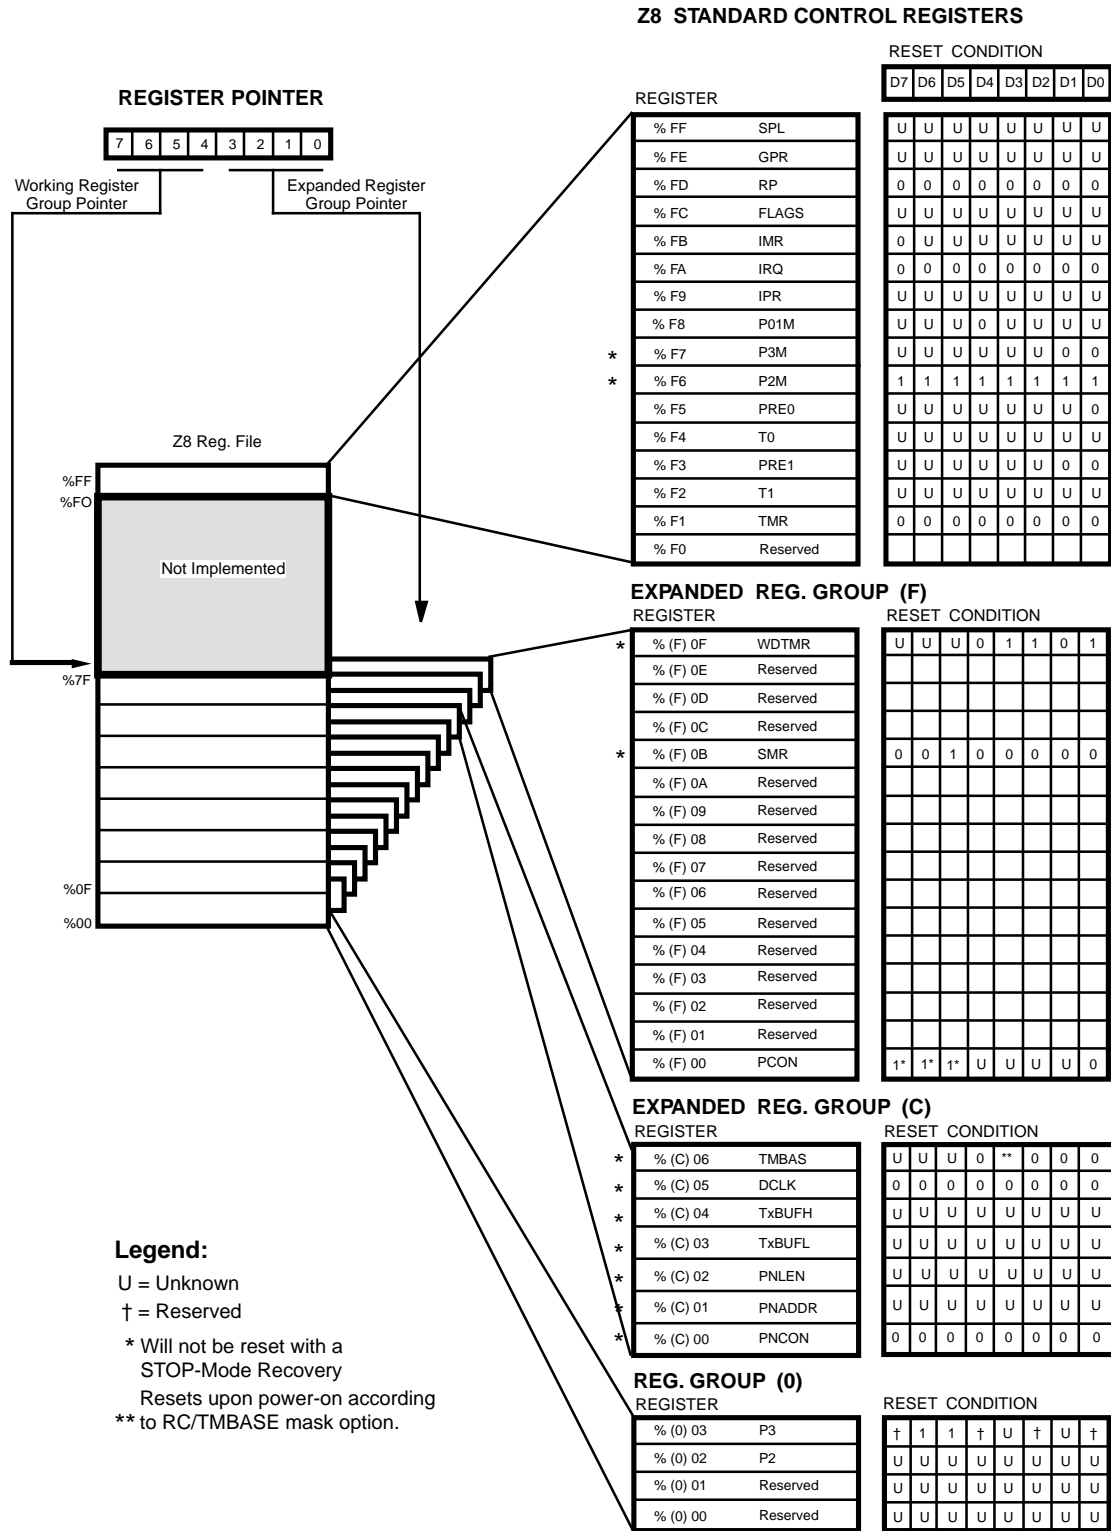

Figure 11. Expanded Register File Architecture
Expanded Register File. The register file has been expanded to allow for additional system control registers and for mapping of additional peripheral devices and input/output ports into the register address area. The Z8 register address space R0 through R15 is implemented as 16 groups of 16 registers per group. These register groups are known as the ERF (Expanded Register File). Bits 3-0 of the Register Pointer (RP) select the active ERF group. Bits 7-4 of register RP select the working register group (Figure 11). Three system configuration registers reside in the Expanded Register File address space in Bank F, while six PN modulator registers reside in Bank C. The rest of the Expanded Register addressing space is not physically implemented and is open for future expansion. To write to the ERF, the upper nibble of the RP must be zero. To write to the rest of the register file, the lower nibble must be zero.